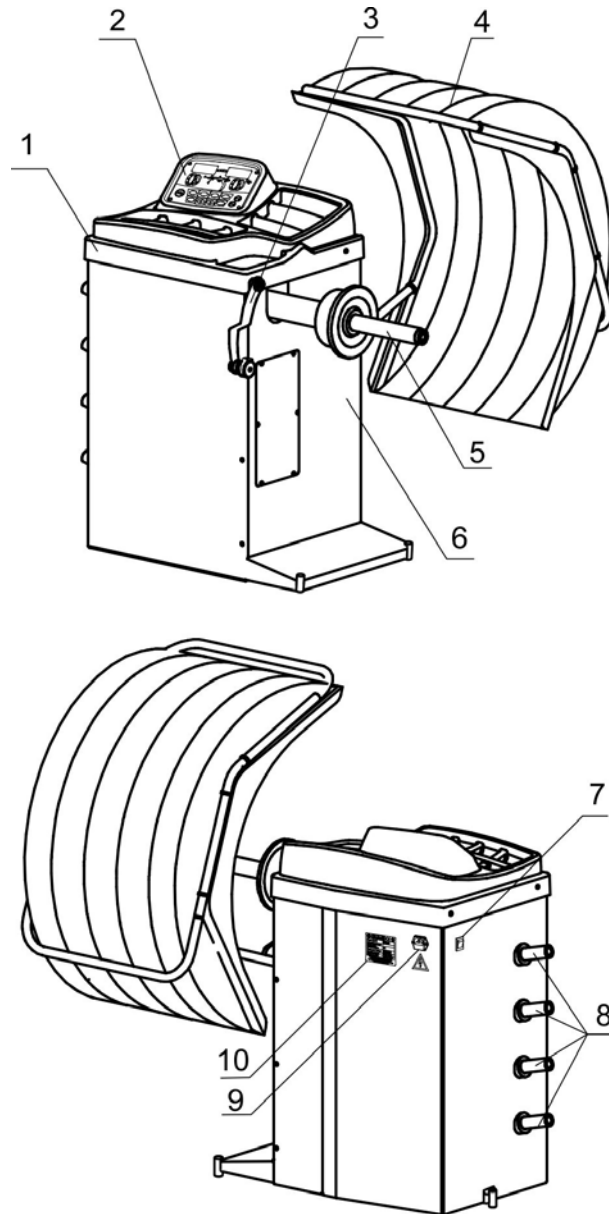

Figure 4.1
4.2.7 Connect the power supply cable to the machine jack, located on the rear panel of the machine body (figure 4.1), and to the supply mains equipped with the mains socket with the grounding contact.